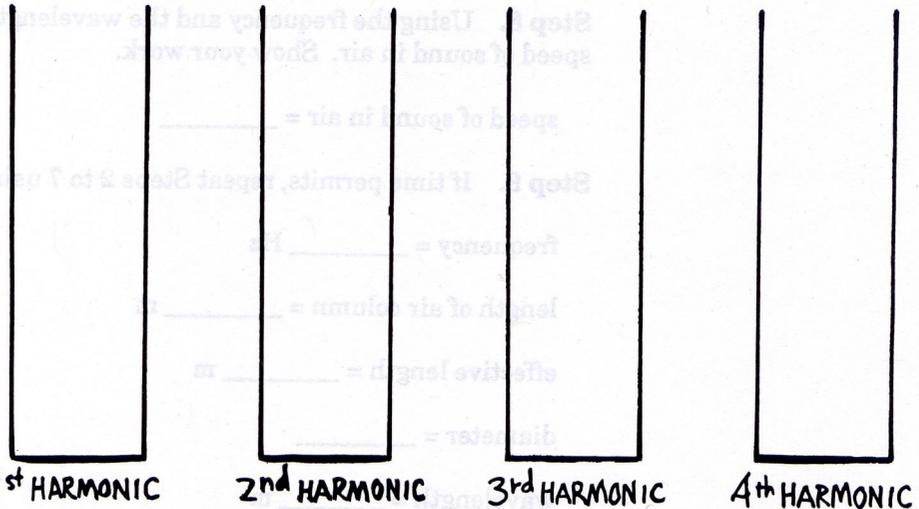

Figure 29.2
Step 1. Using dashed lines as shown in Figure 29.2, sketch the *displacement* standing waves of the first four harmonics in the tube below. Indicate the nodes and antinodes with the letters "N" and "A."